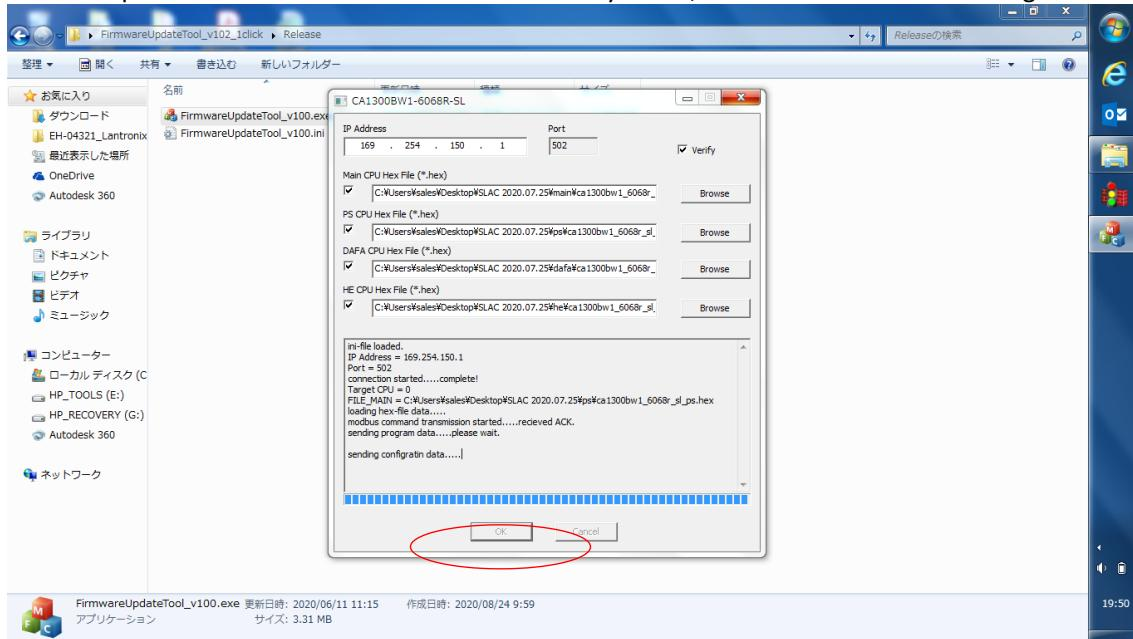

Fig. 12
- 12 After setting of hex file, click OK. (see Fig. 12) By clicking OK, "FirmwareUpdateTool_v100.exe" sets up hex file. Unless hex files are moved to anywhere, there is no need for resetting hex file.